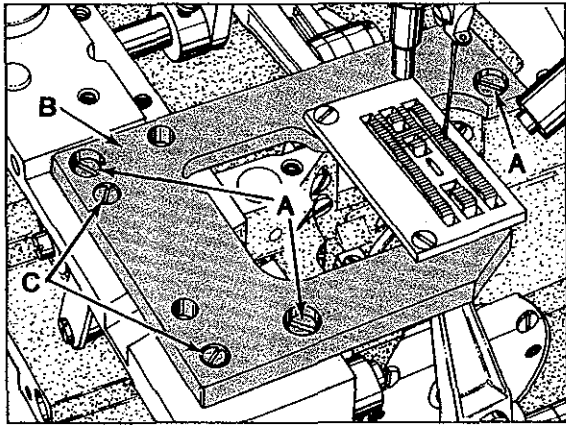

Fig. 10
Feed dog should be centered in throat plate with equal clearance on all sides and ends. At highest point of travel, feed dog teeth should extend the depth of a tooth or approximately $3/64$ inch (1.2mm) above throat plate and parallel to same. Minor right to left adjustments can be made by loosening three screws (A, Fig. 10) in throat plate support (B). There are two adjustable ferrules used to align throat plate support. Loosen two screws (C) which secure the ferrules and reposition throat plate support slightly as required, considering both needle hole and feed dog slots. Tighten two screws (C) first, then tighten three screws (A).